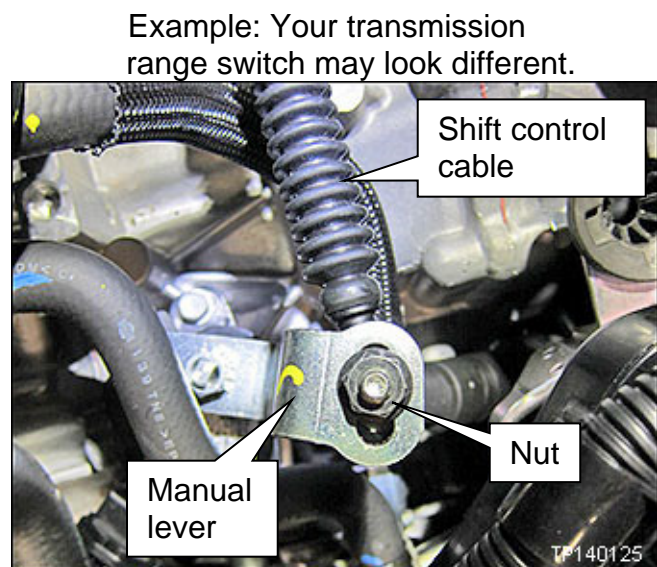

Figure 1
7. Loosen the shift control cable nut shown in Figure 1.